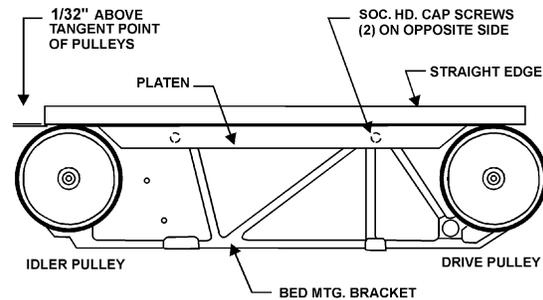

Figure 15
Refer to Figure 15:
2. Using a 6mm hex wrench, loosen the two socket head cap screws inside the belt arm and shift the platen as needed. The platen should be  $1/32''$  to  $1/16''$  above the tangent points of the pulleys and in contact with the belt at both ends. A straight edge can be used with the abrasive belt to align the platen, as shown in Figure 15.